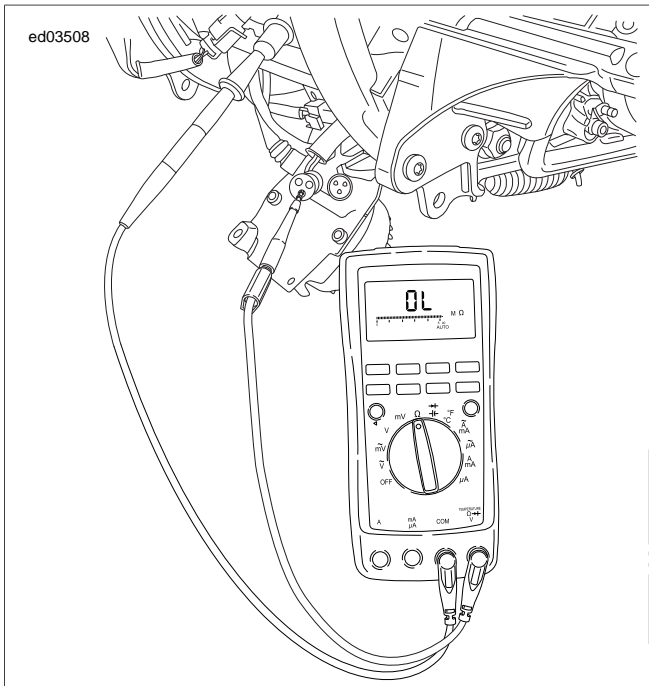

Figure 3-13. Test for Grounded Stator (Typical)
- See Figure 3-13. Using HARNESS CONNECTOR TEST KIT (Part No. HD-41404), connect an ohmmeter.